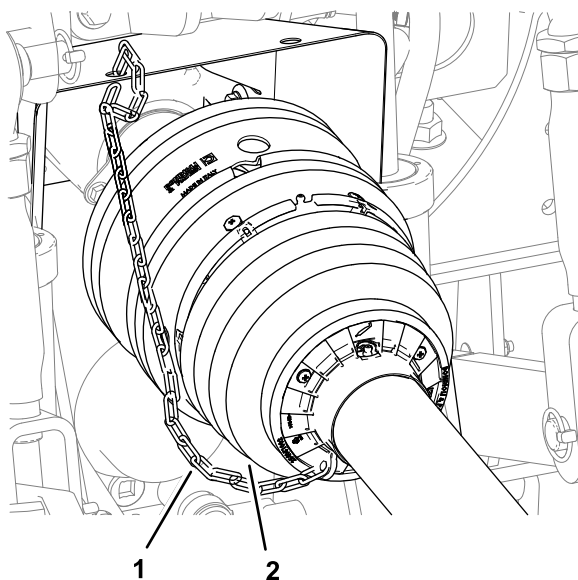

Figure 32
6. Attach the restraint chain to a fixed part of the tow vehicle (Figure 32).